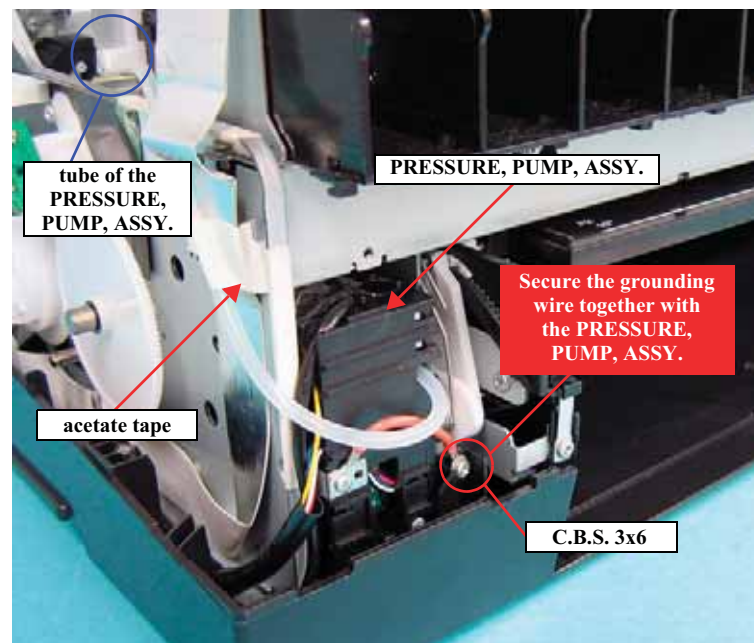

Figure 4-118. Removing the screws from the PRESSURE, PUMP, ASSY.
2. Pull out the tube of the PRESSURE, PUMP, ASSY. from the left side of the FRAME, HOLDER, IC, ASSY. See Figure 4-118.
3. Peel off the acetate tape that secure the tube of the PRESSURE, PUMP, ASSY., and release it. See Figure 4-118.
6. Remove the screw that secures the PRESSURE, PUMP, ASSY. and the grounding wire to the main unit, and remove the PRESSURE, PUMP, ASSY. See Figure 4-118.